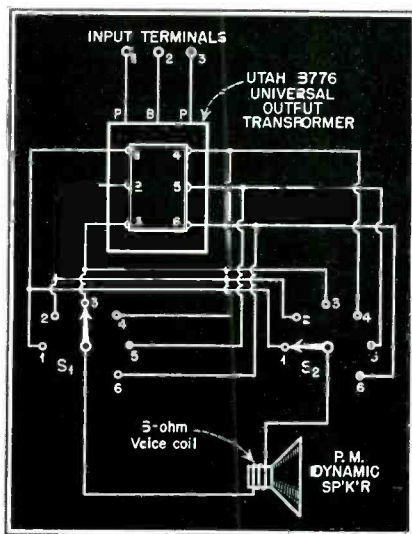

Fig. 1. Schematic of test speaker
*Fig. 1* shows the simple circuit diagram of a test speaker which requires only the following parts: 1 permanent magnet dynamic speaker (6-ohm voice coil shown) of whatever diameter the builder prefers, 1 replacement-type universal output transformer, 3 binding post terminals, 2 single-pole, 6-position,
If the specified Utah type 8776 universal output transformer is employed, the test speaker unit may be connected to either single-ended or pushpull output stages in radio sets or amplifiers delivering up to 18 watts output. This transformer has six taps on its voice coil secondary winding. When these taps are connected to the six points of each of the two selector switches, as shown in *Fig. 1*, fifteen different combinations are made possible by the various numbered switch settings. The two switches, of course, never are set to the *same* point, since this would result in a short circuit of the voice coil. *Table 1* shows several com-
The values given in Table 1 assume a test speaker voice coil impedance of 6 ohms, as given in Fig. 1. However, many service dealers undoubtedly will choose to use available speakers, for building this test device, which have voice coils of different impedance value. For their convenience, Table 2 is reproduced here. This latter table shows (in the first column) the switch positions required to match the desired voice coil impedance (or the nearest value obtainable from the main body of the Table) to the primary (plate load) impedance values given at the bottom of each column. Either one of the selector